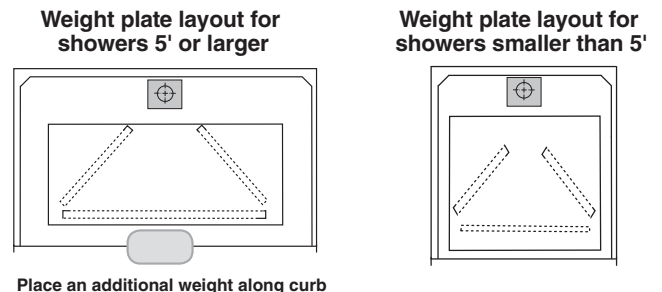

Figure 12
- 8** CONSTRUCT WEIGHT PLATES if not provided, as shown in Figure 12. Weight plates distribute the weight evenly, which helps prevent deformities in the sloping floor. They also help to ensure that the epoxy spreads evenly and bonds securely to both shower bottom and floor.